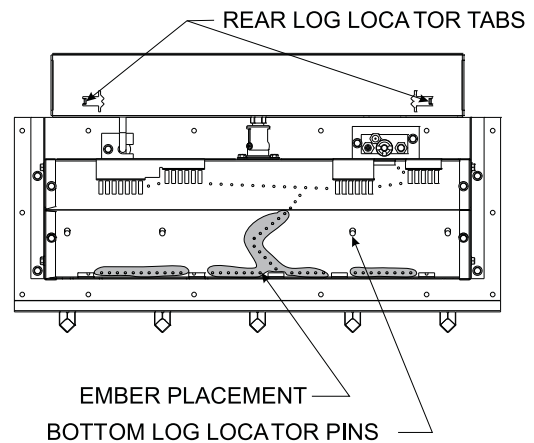
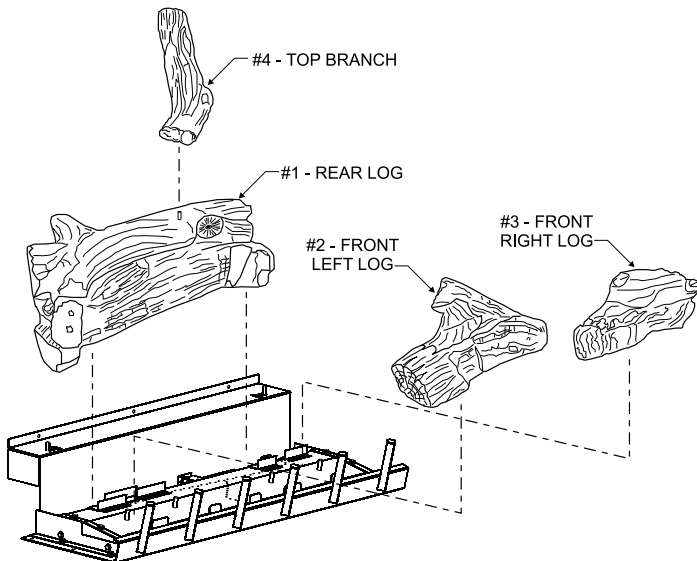
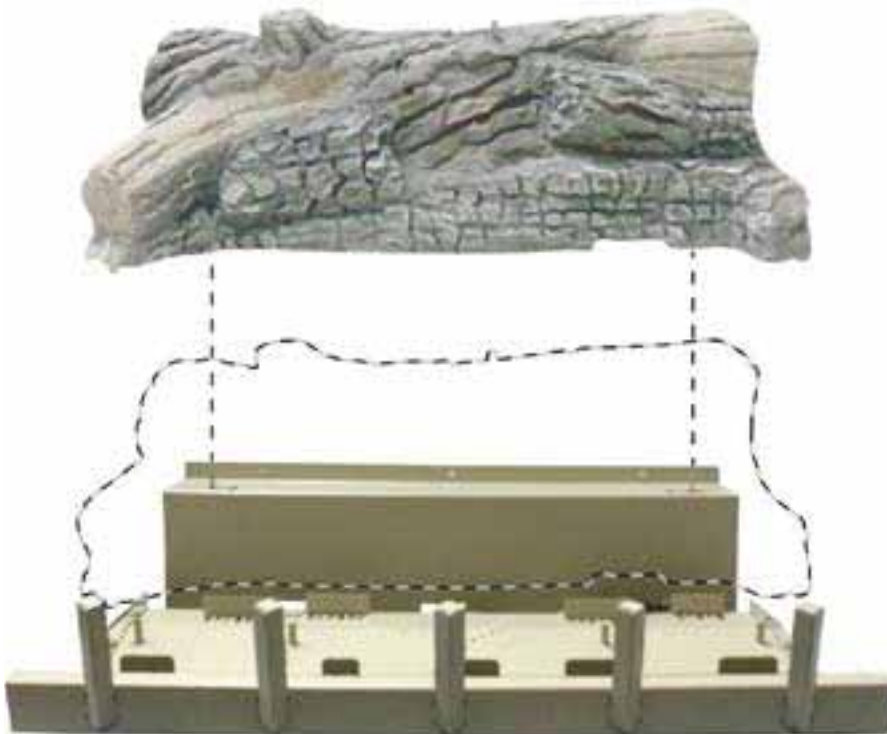

Figure 71
Figure 70
Figure 72
The positioning of logs is critical to safe and clean operation of this fireplace. Sooting and other problems may result if the logs are not properly and firmly positioned in the firebox. Please refer to **Figure 70**, **Figure 71**, and **Figure 72** and corresponding **WARNING**, when completing the following log placement steps.
2. After all logs are properly positioned, place small “dime” size pieces of Rockwool lightly across the front round “blueflame” ports. Place the ember material (Rockwool pieces) side by side. Do not stack more than one layer of embers across the burner ports. **See Figure 70.**